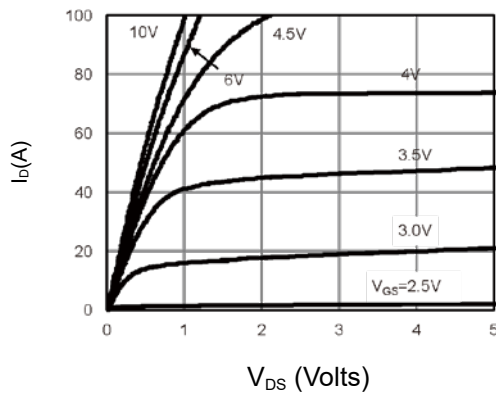

Figure 1: On-Region Characteristics (Note E)
- E. The static characteristics in Figures 1 to 6 are obtained using $<300\mu\text{s}$ pulses, duty cycle 0.5% max.